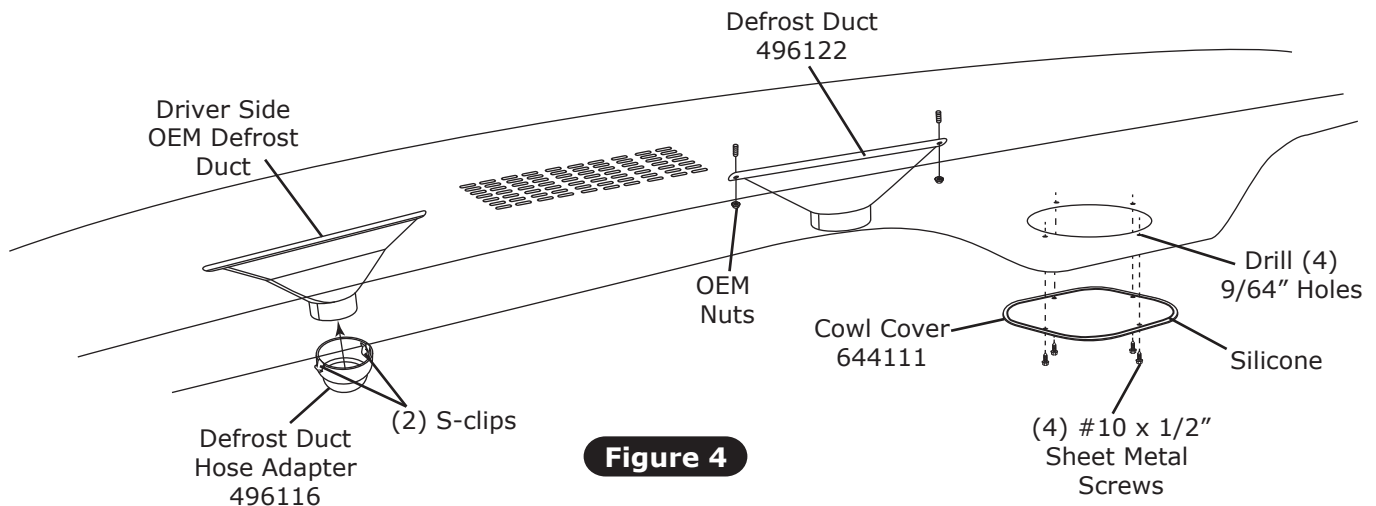

Figure 4
1. Install (2) S-clips onto defrost duct hose adapter (See Figure 4, below).
2. Install defrost duct hose adapter onto OEM driver side defrost duct as shown in Figure 4, below.
3. Install defrost duct on passenger side using OEM nuts as shown in Figure 4, below.
4. Hold cowl cover under dash and mark the (4) mounting holes.
5. Drill (4) 9/64" mounting holes under dash.
6. Apply a 1/4" bead of silicone around the back side of the cowl cover as shown in Figure 4, below.
7. Secure cowl cover to fresh air hole using (4) #10 x 1/2 sheet metal screws as shown in Figure 4, below.